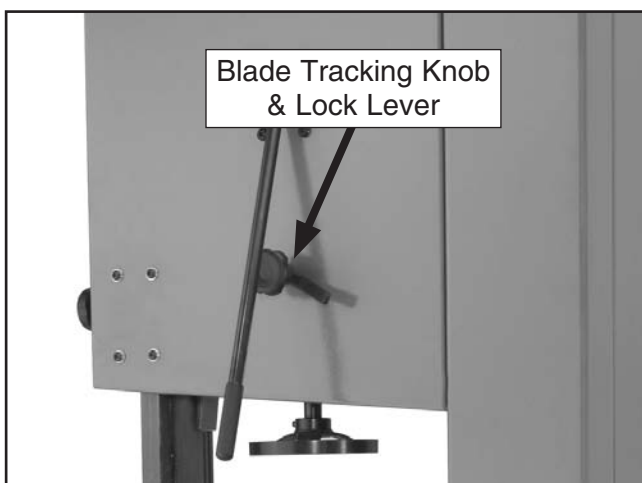

Figure 13. Blade tracking knob and lock lever.
7. Loosen the blade tracking lock lever so that the blade tracking knob can rotate (see **Figure 13**).